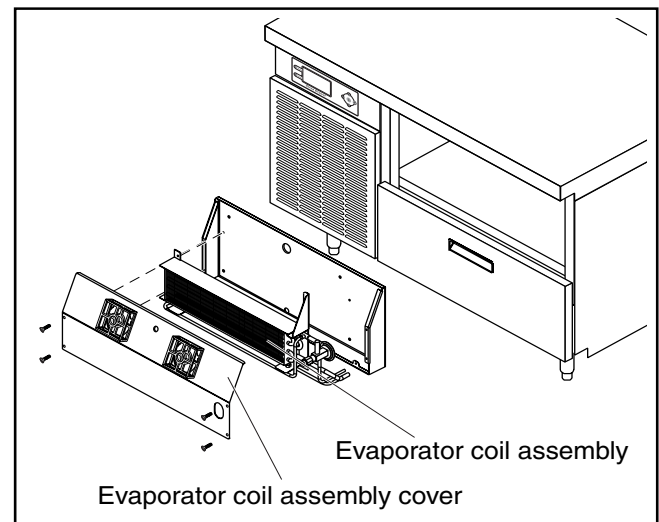

Figure 6. Evaporator Coil Assembly Cover
1. The evaporator coil assembly cover is mounted behind the drawer (Figure 6).